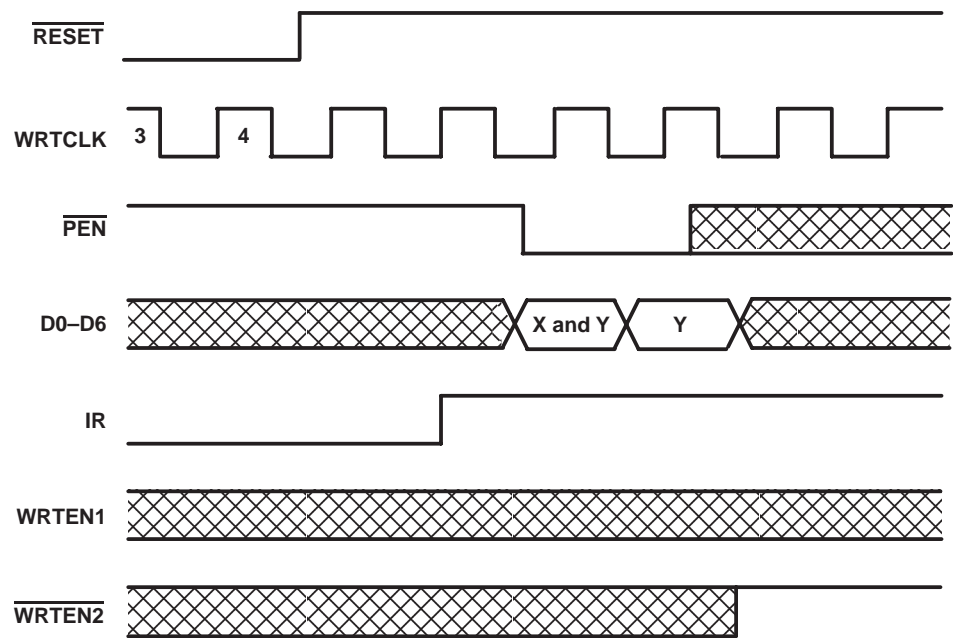

Figure 4. Programming X and Y Separately
Program enable (\overline{PEN}) should be held high throughout the reset cycle. \overline{PEN} can be brought low only when IR is high and WRTCLK is low. On the following low-to-high transition of WRTCLK, the binary value on D0–D6 is stored as the almost-empty offset value (X) and the almost-full offset value (Y). Holding \overline{PEN} low for another low-to-high transition of WRTCLK reprograms Y to the binary value on D0–D6 at the time of the second WRTCLK low-to-high transition. When the offsets are being programmed, writes to the FIFO memory are disabled regardless of the state of the write enables (WRTEN1, WRTEN2). A maximum value of 127 can be programmed for either X or Y (see Figure 4). To use the default values of $X = Y = 32$, \overline{PEN} must be held high.